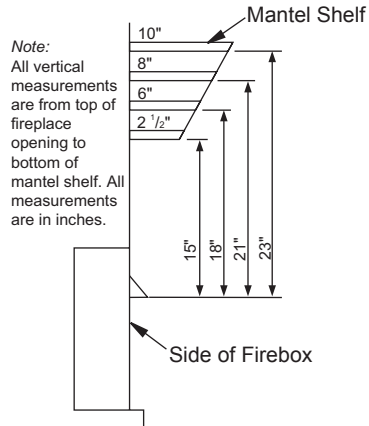

Figure 10 - Minimum Mantel Clearances for Built-In Installation
- For mantel clearances, see Figure 10 on page 12.
Built-in installation of this fireplace involves installing fireplace into a framed-in enclosure. This makes the front of fireplace flush with wall. An optional trim kit accessory is available (see *Accessories*, page 40). Trim will extend past sides of fireplace approximately 1/2 inch. This will cover the rough edges of the wall opening. If installing a built-in mantel above the fireplace, you must follow the clearances shown in Figure 10, page 12. Follow the instructions below to install the fireplace in this manner.